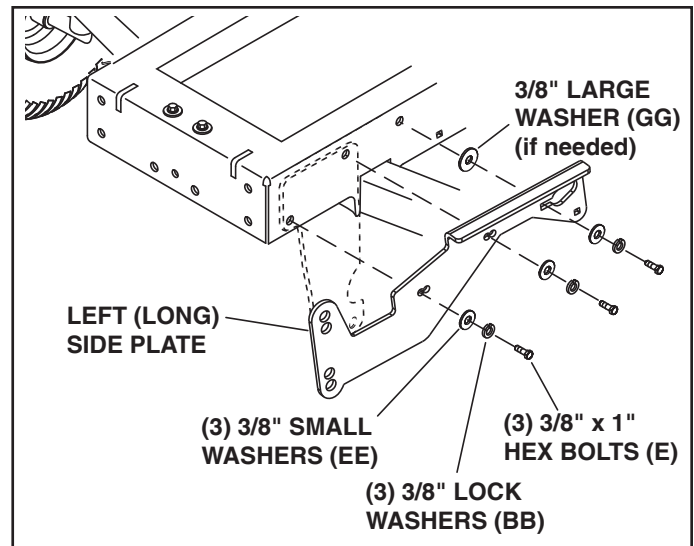

FIGURE 20
STEP 21: INSTALL SIDE PLATES (SEE FIGURE 20)
- Fasten the left (long) side plate to the tractor frame using three 3/8" x 1" hex bolts (E), 3/8" small washers (EE), and 3/8" lock washers (BB). If there is a bracket like the one shown with dotted lines, use a 3/8" large washer (GG) as a shim on the rear bolt. **Do not tighten yet.** Repeat for the right (long) side plate.